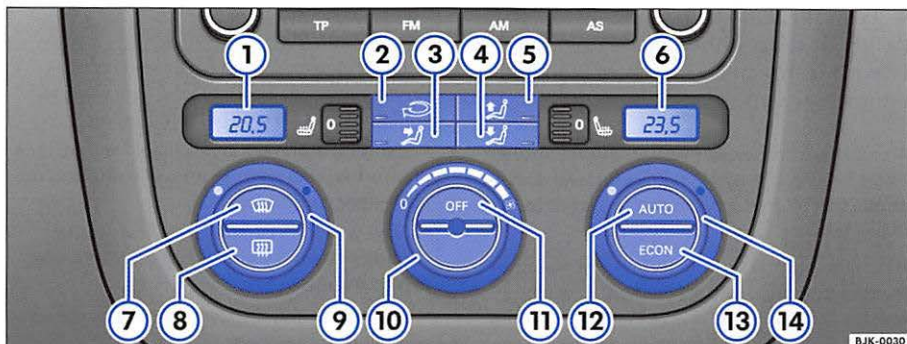

Fig. 72 On the center console: Climatronic controls
– Press one of the buttons (Fig. 72 3) to (5), or turn the fan control (10). The light in the **AUTO** button will go out.
– Press the button  page 87, fig. 72 to switch air recirculation mode on or off. When it is switched on a yellow light in the button lights up.